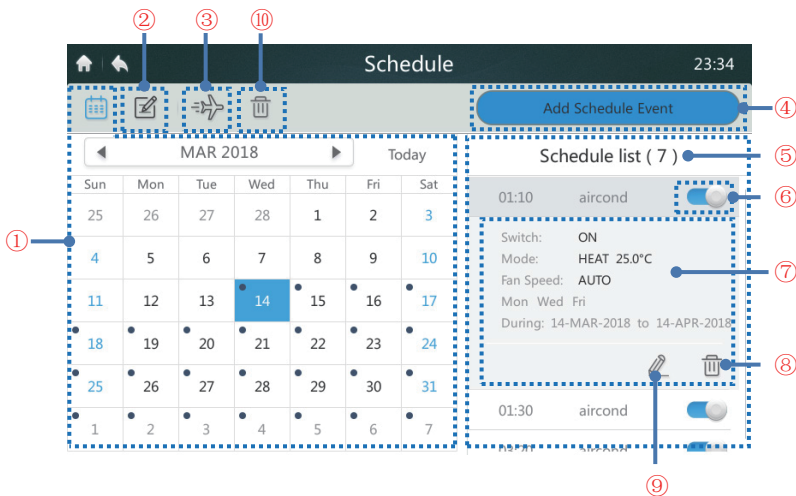

Figure 19 Homepage of Schedule page
1. Tap the add schedule button marked "4" in Figure 19 to enter the interface, as shown in Figure 20.
1. Tap the "📅" button marked "3" in Figure 19 to enter holiday settings, as shown below. Schedules are not implemented during the holiday period.
Tap the "🗑️" button marked "10" in Figure 19 to delete all the schedules settings. The following prompt appears, as shown below. Tap "Delete" to delete the schedule or tap "Cancel" to cancel the operation.